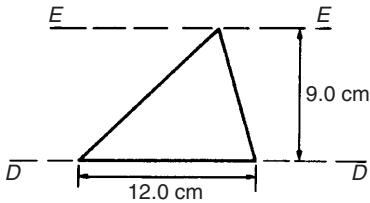

Figure 7.20
2. Determine the second moment of area and radius of gyration for the triangle shown in Figure 7.20 about (a) axis DD (b) axis EE and (c) an axis through the centroid of the triangle parallel to axis DD